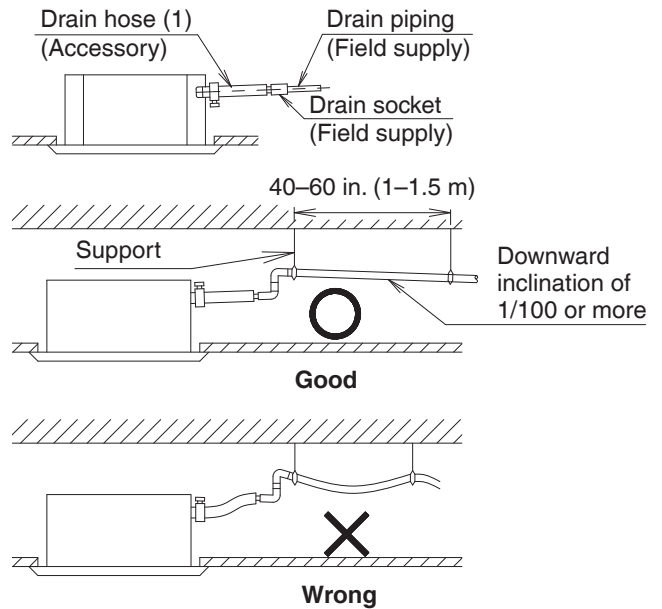

Fig. 14
(1) Carry out drain piping.
- Install the drain piping as short as possible with downward inclination of 1/100 or more where air cannot stagnate. (Refer to Fig. 14) Bubbling sound may occur.
- Install supports at a distance of 40–60 in. (1–1.5 m) so that the piping may not deflect. (Refer to Fig. 14)
- Make sure to use the attached drain hose (1) and the metal clamp (2). Insert the drain hose (1) into the drain socket up to the point where the socket diameter becomes larger. Put the metal clamp (2) to the taped hose end and tighten the metal clamp (2) with torque 1.00±0.11 lbf-ft. (1.35±0.15 N·m).